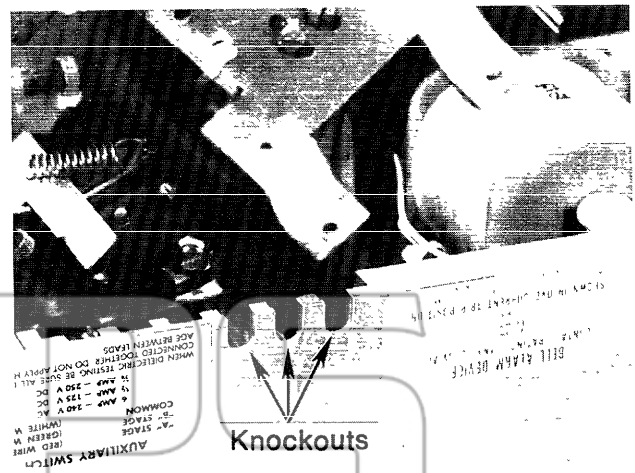

Fig. 6
- Remove knockouts as required in side of base. Each knockout will accommodate up to three bundles of wires (Fig. 6). Remove all sharp edges with a file.